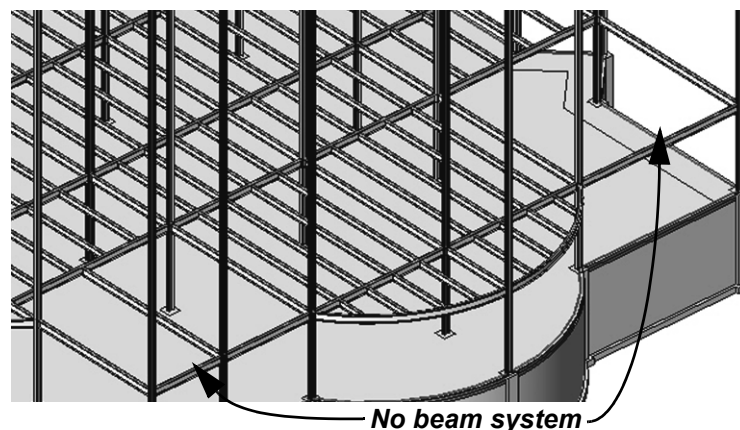

Figure 7–17
5. Click inside each bay, ensuring that the beams are running in a west-east direction. Exclude the bays on the corners of the east end shown in Figure 7–17.